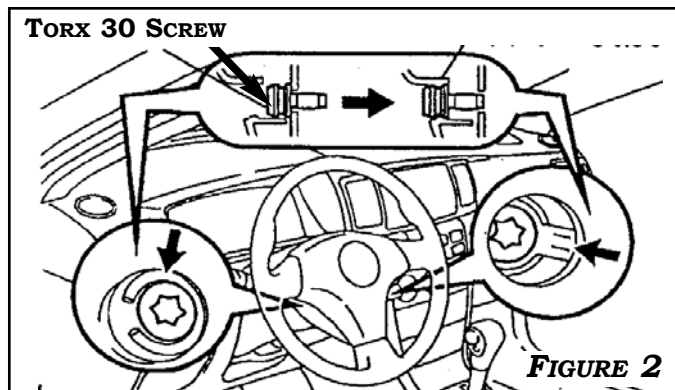

FIGURE 2
1. REMOVE AIRBAG BY RELEASING SIDE PANELS FROM STEERING WHEEL AND EXTRACTING THE TWO 30 TORX SCREWS AS ILLUSTRATED IN **FIGURE 2**.